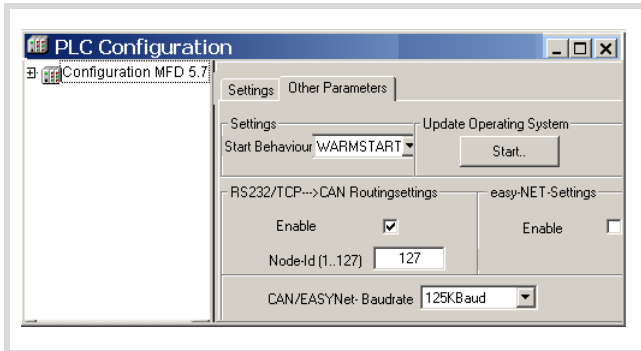

Figure 59: Routing settings for master and device
- ▶ In the PLC configuration set the routing ID and the CAN baud rate in the Other Parameters tab, → figure 59.
Define the routing ID and the CAN baud rate of the target stations, e.g. MFD4, in the station configuration in the Other parameters window, → figure 59.